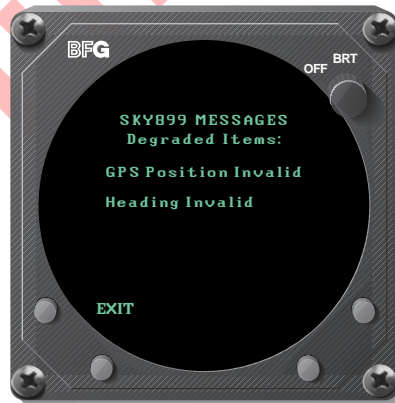

Figure 3-8. Message Screen With Two Messages
1. **Press the button next to **MSG** to display the message screen (figure 3-8).**